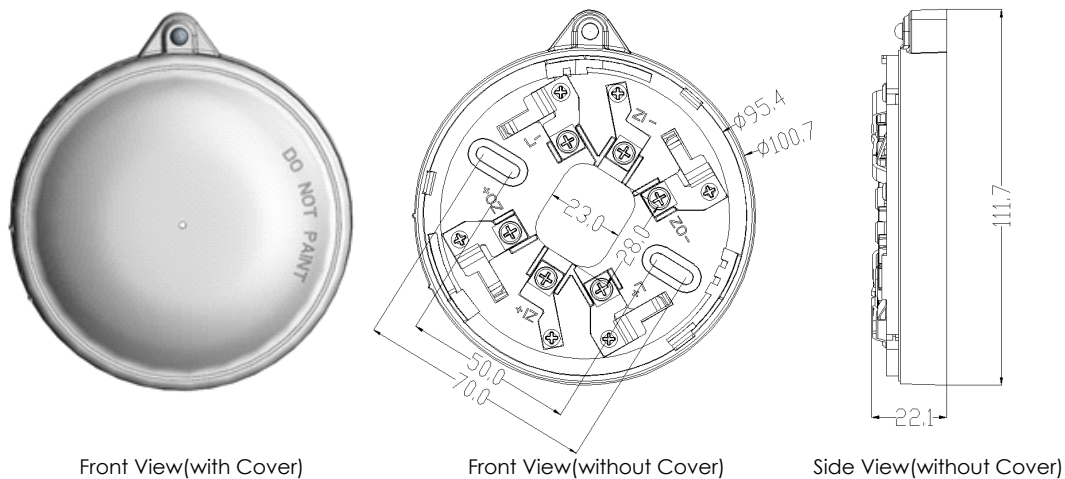

Figure 1 External view of Base Mount Short Circuit Isolator
1. The appearance of the Base Mount Short Circuit Isolator is shown in Figure 1. Figure 1-a, 1-b and 1-c are front view with a cover, front view without a cover and side view without a cover, Respectively.
2. As shown in Figure 1-b, "ZI+" and "ZI-" are the positive and negative terminals of the bus input. ZO+ and ZO- are the positive and negative terminals of the bus output. "L+" and "L-" are used to connect the remote control lights.